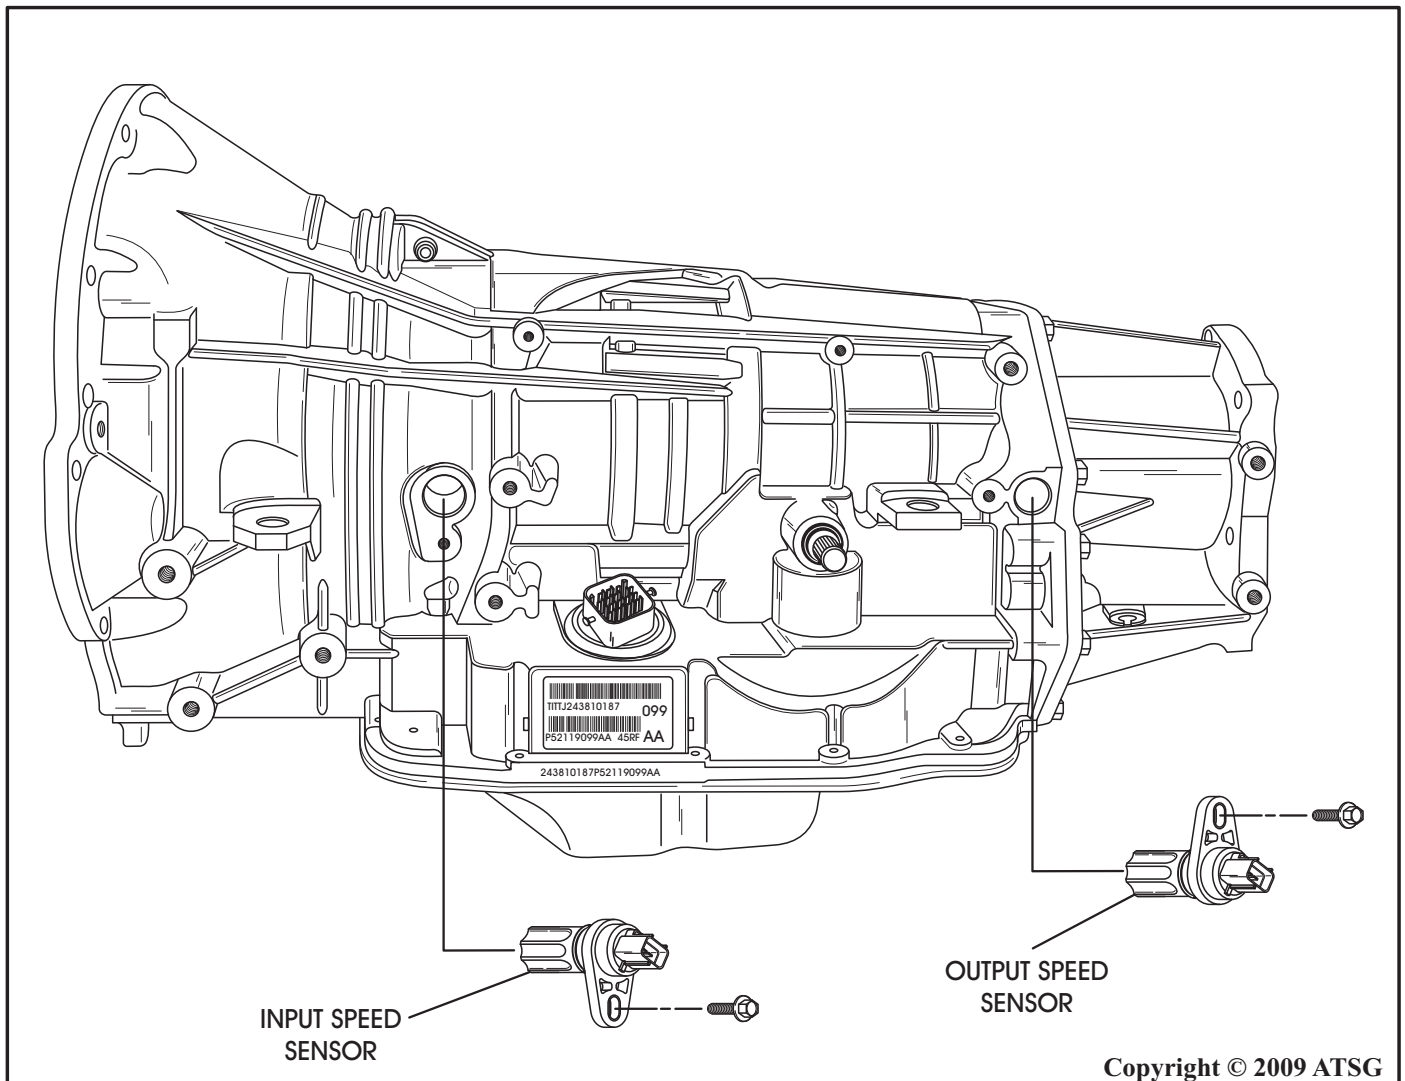

Figure 131
64. Install input shaft speed sensor into case bore, as shown in Figure 131, and torque bolt down to 12 Nm (105 in lb).
65. Install output shaft speed sensor into case bore, as shown in Figure 131, and torque bolt down to 12 Nm (105 in lb).